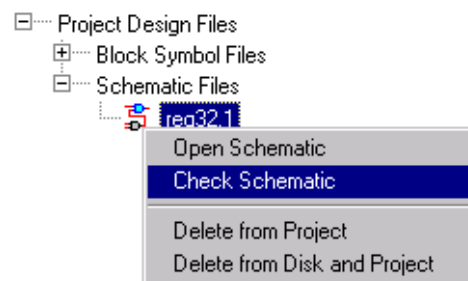

Figure 19— Perform “Check Schematic”
11. Optional Step: Run *Check Schematic* on the REG32 block in order to perform some additional schematic checks not provided in ViewDraw (see Figure 19)